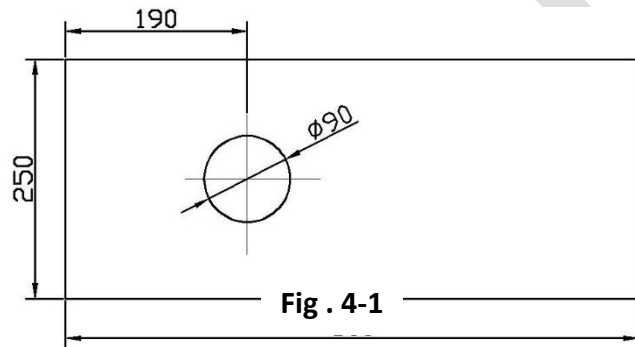

Fig . 4-1
- 2.3 After unpacking, the tester shall be placed on a stable bench with horizontal deviation less than 1 mm/m. A hole shall be drilled at an appropriate location on the bench (see Fig .4-1) to enable the Up and Down Moving Shaft (7) to operate properly.